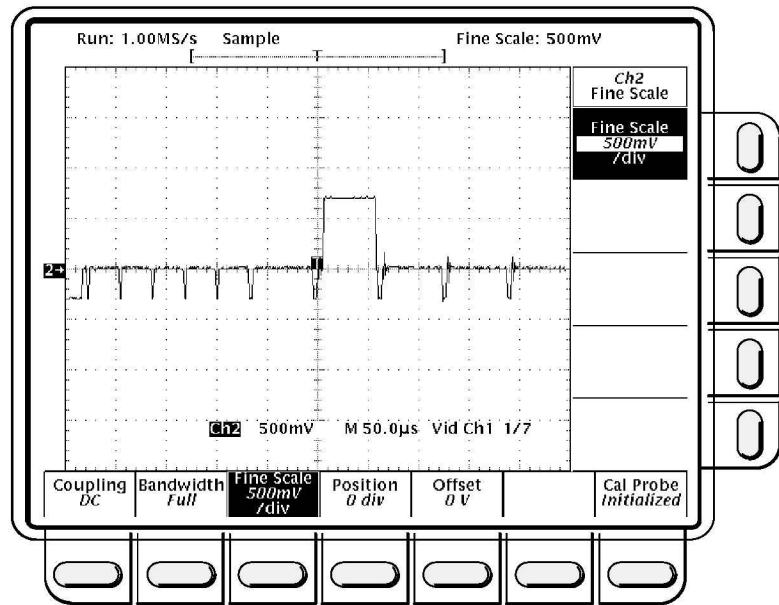

Figure 4-34: 60 Hz Rejection Test Result
- CONFIRM that the **TRIG'D** LED stays lit and that the waveform on screen is stable ie that the waveform does not move horizontally or vertically. Also, confirm that the waveform on the screen has one positive pulse and a number of negative pulses (see Figure 4-34).